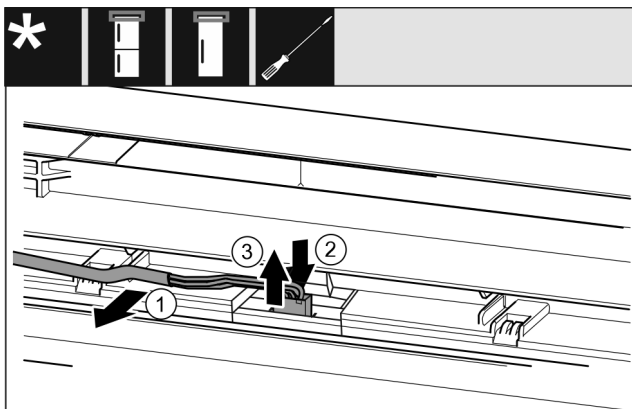

Fig. 18
- ▶ Carefully remove the gray cable from the guide in the door. Fig. 18 (1)
- ▶ Press the lug behind the plug backward. Fig. 18 (2)
- ▶ Carefully pull out the plug upward. Fig. 18 (3)